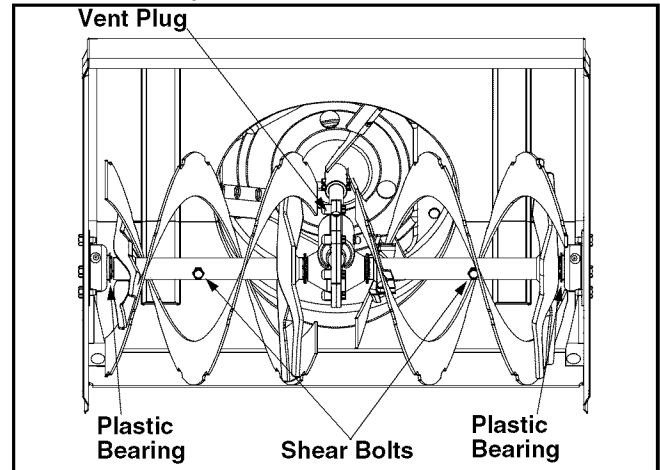

Figure 13
The gear case is lubricated with grease at the factory and it does not require checking. If disassembled for any reason, lubricate with 2 ounces of Shell Alvania grease EPR00, part number 737-0168. Before reassembling, remove old sealant and apply new sealant. See Figure 13.
At least once a season, remove the shear bolts on the auger shaft. Spray lubricant inside the shaft and lubricate the plastic auger bearings at least once a season. See Figure 13.
- The augers are secured to the spiral shaft with two shear bolts and hex lock nuts. If you hit a hard foreign object or ice jam, the snow thrower is designed so that the bolts may shear. Refer to Figure 13.